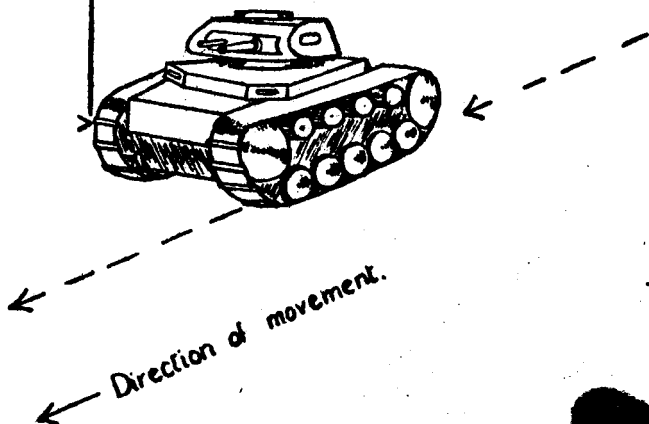

Fig. 6. Correct aim diagonally crossing tank
- iii. When moving diagonally across the front, aim at the front edge (*see* Fig. 6).